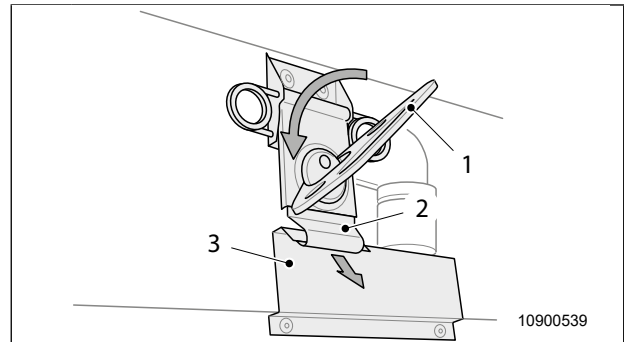

Fig. 38 Opening the turn lock
4. Open the turn locks (Fig. 38) on the right and left side:
- Fold out the handle (Fig. 38, item 1) of the turn lock.
- Release the movable hook of the turn lock (Fig. 38, item 2) from the permanently fitted counterpart (Fig. 38, item 3).